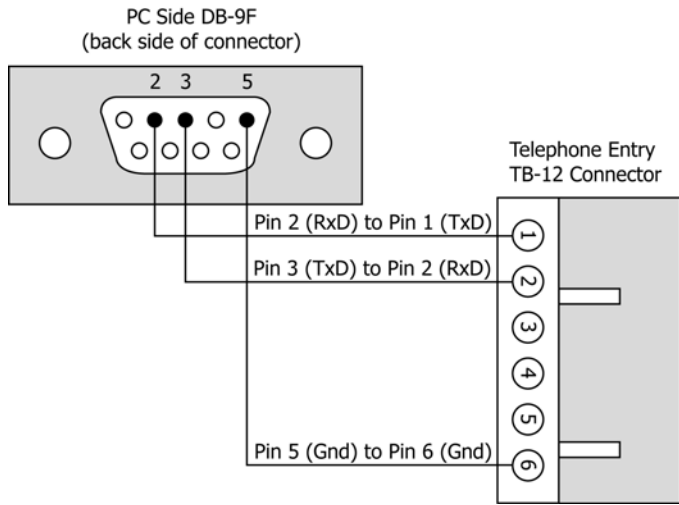

Figure 16: PC/DB-9F to Telephone Entry/TB-12 RS-232 Direct Serial Connections
- If the host computer has a male DB-9 connector on the serial port, you must use a Keri Systems KDP-252 cable or create a cable according to the drawing in Figure 16.